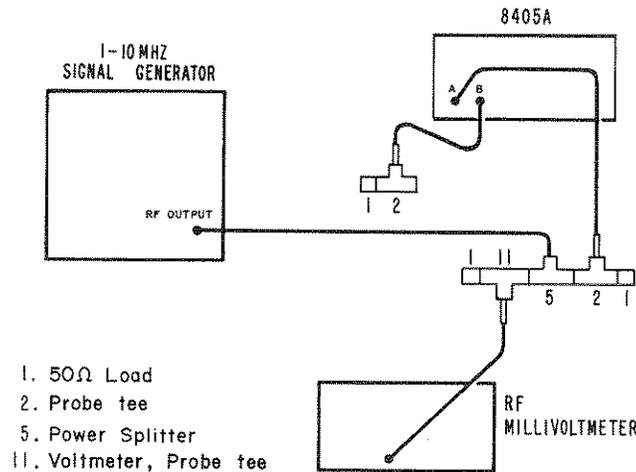

Figure 2K. Setup for RF Gain Adjustment
- h. With signal source set to minimum, connect test equipment as shown in Figure 2K.